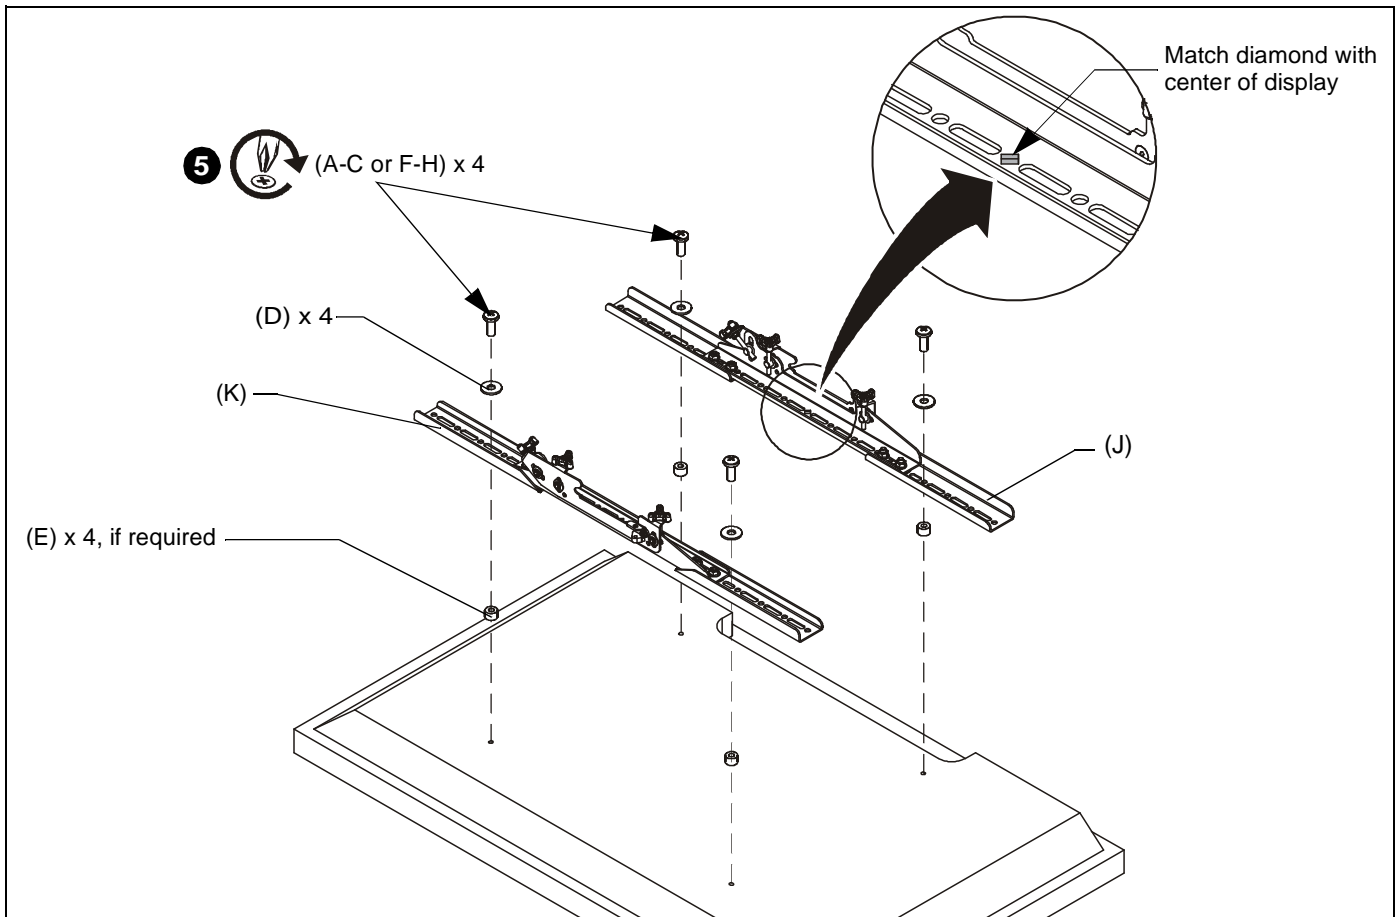

Figure 3
2. Select screw *diameter* by examining hardware (A-C and F-H) (6mm or 8mm) and comparing with mounting holes on display. (See Figure 3)
- Spacers (E) **ARE** required if mounting holes are recessed, or if protrusions prevent interface brackets (J and K) from laying flat.
4. Select screw *length*: (See Figure 3)
- By hand, insert **SHORTEST** length screw of selected diameter (A or F) through 1/4" washer (D), bracket (J or K), selected spacer (E, if required), into display mounting hole. Do **NOT** thread screw into hole at this time.
5. Make sure diamond on interface brackets is even with center of display. (See Figure 3)
6. Use selected screws (A-C or F-H), washers (D) and spacers (E, if necessary), to connect interface brackets (J and K) to back of display. (See Figure 3)